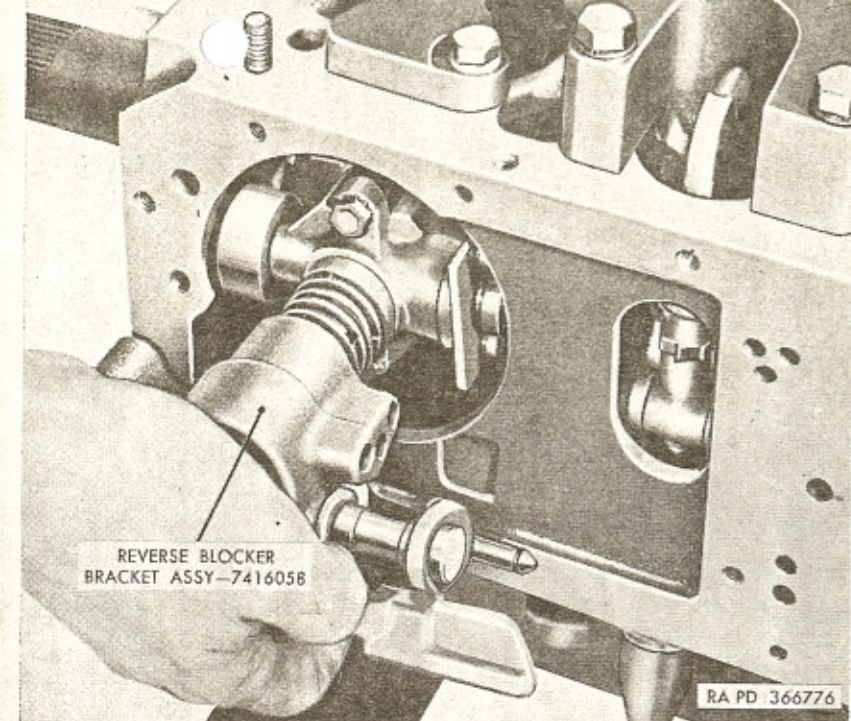

Figure 205. Installing reverse blocker bracket assembly.
a. With gap in the four oil rings on governor tower up, place chamfered side of reverse blocker bracket assembly over end of governor tower. Press reverse blocker bracket gently into position, guiding oil rings on governor tower into reverse blocker bracket (fig. 205).